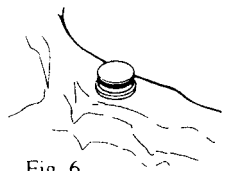

Fig. 6
3. Insert a Locator Cap with Black Processing Male (Zest order #8519 Package) into each Locator Implant Abutment, leaving the White Block-Out spacer beneath it. (Fig. 6) The Black Processing Male will maintain the overdenture in the upper limit of its vertical resiliency during the processing procedure.